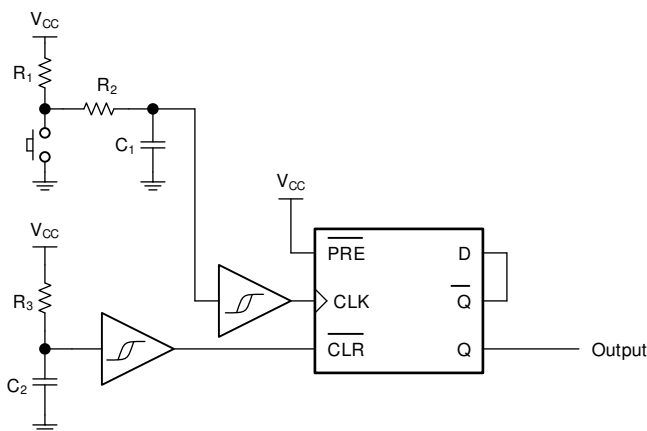

Figure 8-1. Typical Application Block Diagram
Figure 8-1 shows how the SN54SC2T74-SEP is used to up-translate a 1.8-V signal to 3.3 V to drive an LED in this application. The SN54SC2T74-SEP does not limit the output current, so an added output resistor is used to provide the appropriate current limiting. The resistor value (R) should be determined by the LED's forward voltage (V_D) and the desired forward current through the LED (I_D) using this equation: $R = (V_{CC} - V_D)/I_D$.